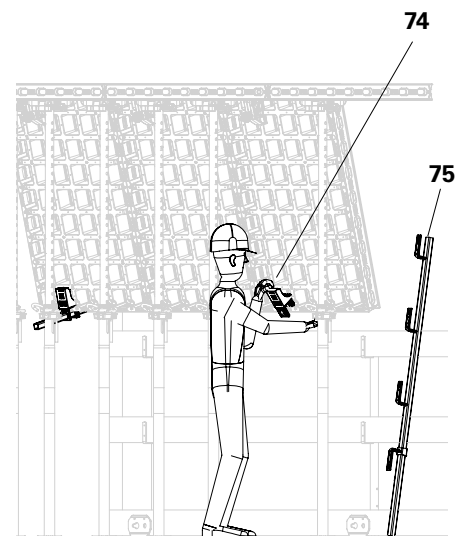

Fig. D4.02b
2. Insert the DUO slab guardrail holder (74) with the flat side facing down through the connector pocket (10.2) of the DP panel. (Fig. D4.02b)